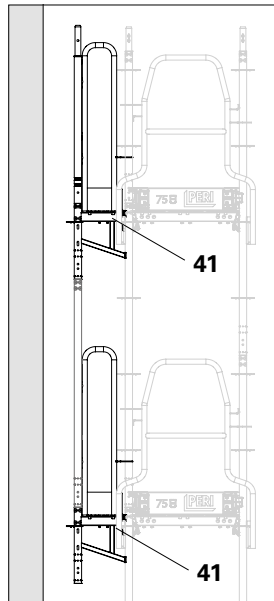
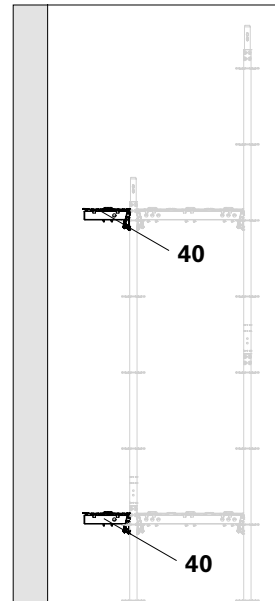

Fig. A6.08a
Fig. A6.08b
Supports UC (40) and UCS (47) do not allow the installation of a guardrail. Therefore, only use supports on the inner side of the scaffold. Distance between deck surface and structure ≤ 30 cm. (Fig. A6.08b) Always install a console bracket on the edge frame to attach front protection. (Fig. A6.08a)